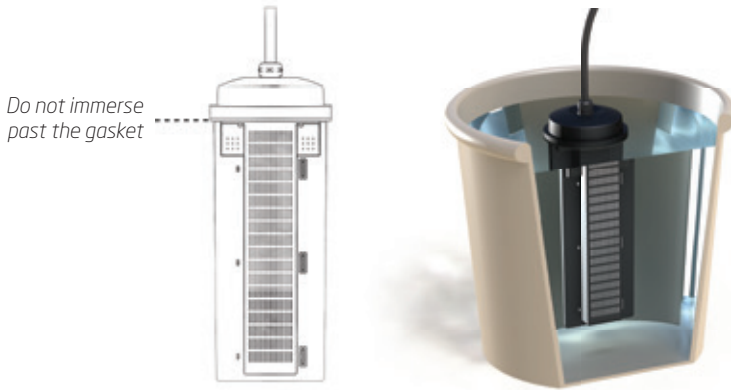

Fig. 11
1. Mix up one part of hydrochloric acid to four parts of water (**IMPORTANT:** always add acid into water, NEVER water to acid) in a plastic bucket or container. Avoid glass and ceramics and never use items used for chlorine storage. You should make sufficient amount of acidic solution to immerse the electrode completely but not the cell head and cable. (Fig. 11)